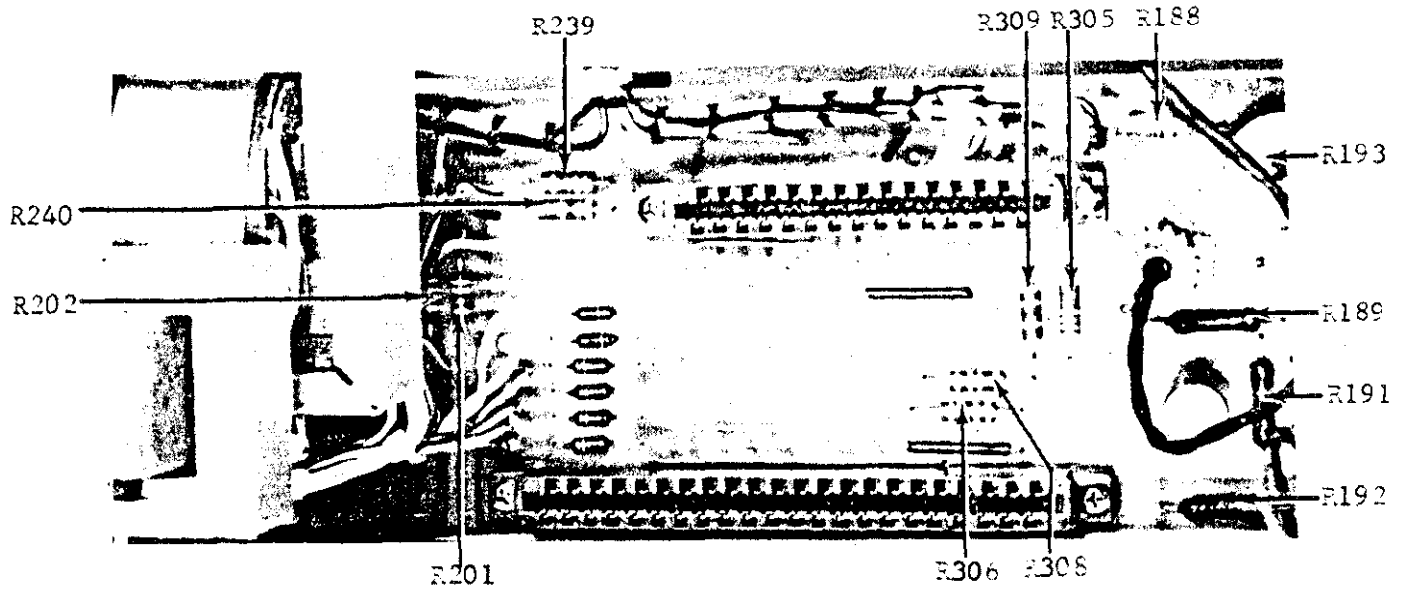

FIGURE 17. Resistor Locations in PC-120. Refer to Figure 16 for capacitor, connector and diode locations.
6. Adjust the Meter Calibration potentiometer (R193, Figure 17) for a reading of 10 on the Model 150B meter scale.